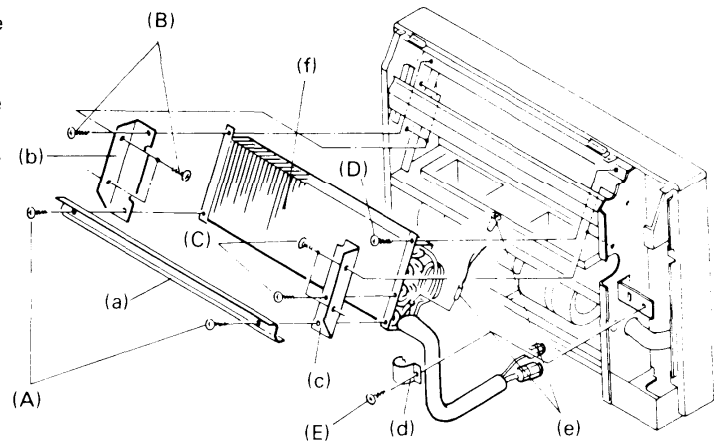

Fig. 8
- ① Remove the two screws (A), and then remove the evaporator spacer (a).
- ② Remove the three screws (B), and then remove the evaporator spacer (b) on the left side.
- ③ Remove the three screws (C), and then remove the evaporator spacer (c) on the right side.
- ④ Pull the thermistor and the clip (e).
- ⑤ Remove the screw (E), and then take off the tube mounting (d).
- ⑥ Remove the screw (D), and remove the evaporator (f) by pulling it to the front. Fig. 8